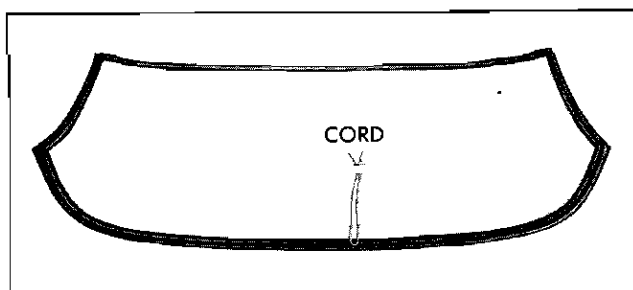

Fig. 1-9 Windshield Installation
3. Install a strong cord in pinchweld cavity of rubber channel completely around windshield. Tie ends of cord and tape to inside surface of glass at bottom center of glass (Fig. 1-9).